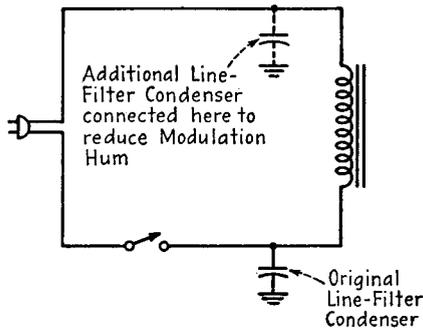

FIG. 27-1. Procedure for reducing modulation hum.
**Causes of modulation hum.** The most common cause for this condition is an open line filter condenser, or inefficient grounding of the receiver. When a receiver is checked at the service bench for a complaint of tunable hum, the first step is to operate the receiver on a station where the hum is very noticeable. No ground lead should be connected to the receiver, since the home installation may not use one. Then connect a condenser of similar capacity across the line filter condenser and listen for a reduction in the hum. If this step is not effective, try connecting the condenser from the other side of the line to the chassis, as shown in Fig. 27-1.